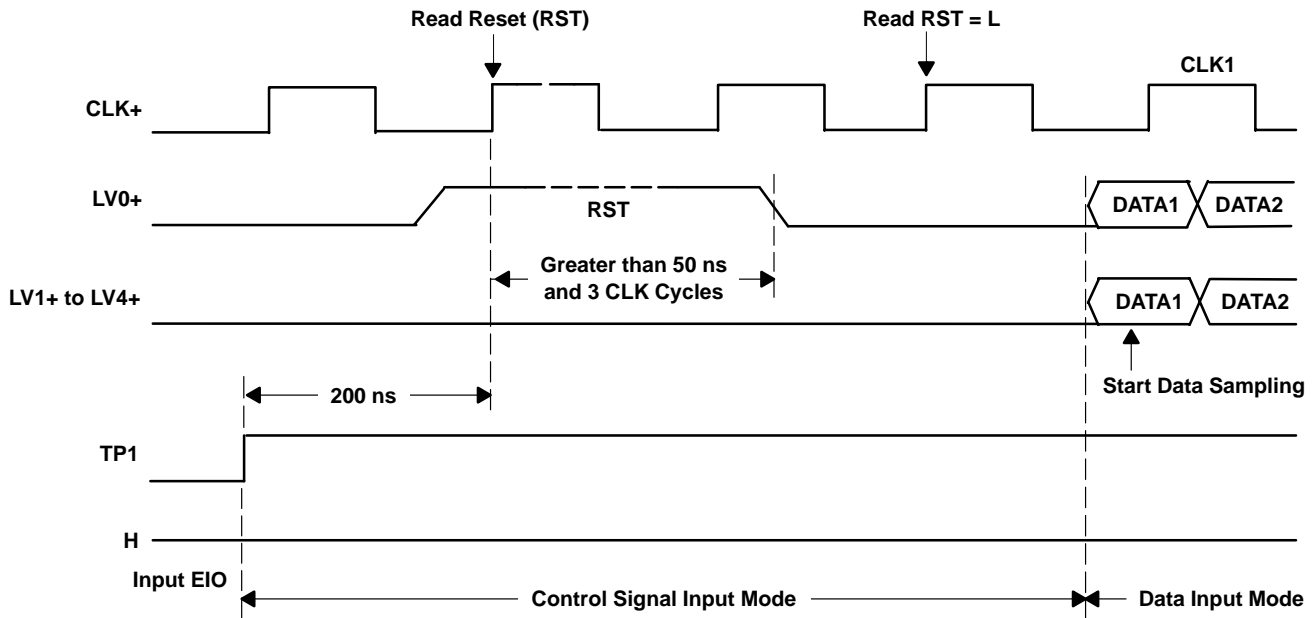

Figure 1. Timing From Start to Sampling (Reference)
- Figure 1 shows the rough timing chart from application of TP1 to the start of data sampling.